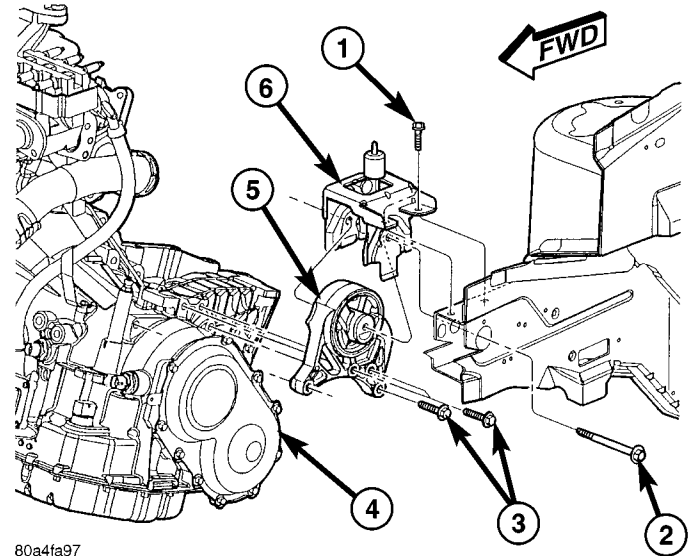
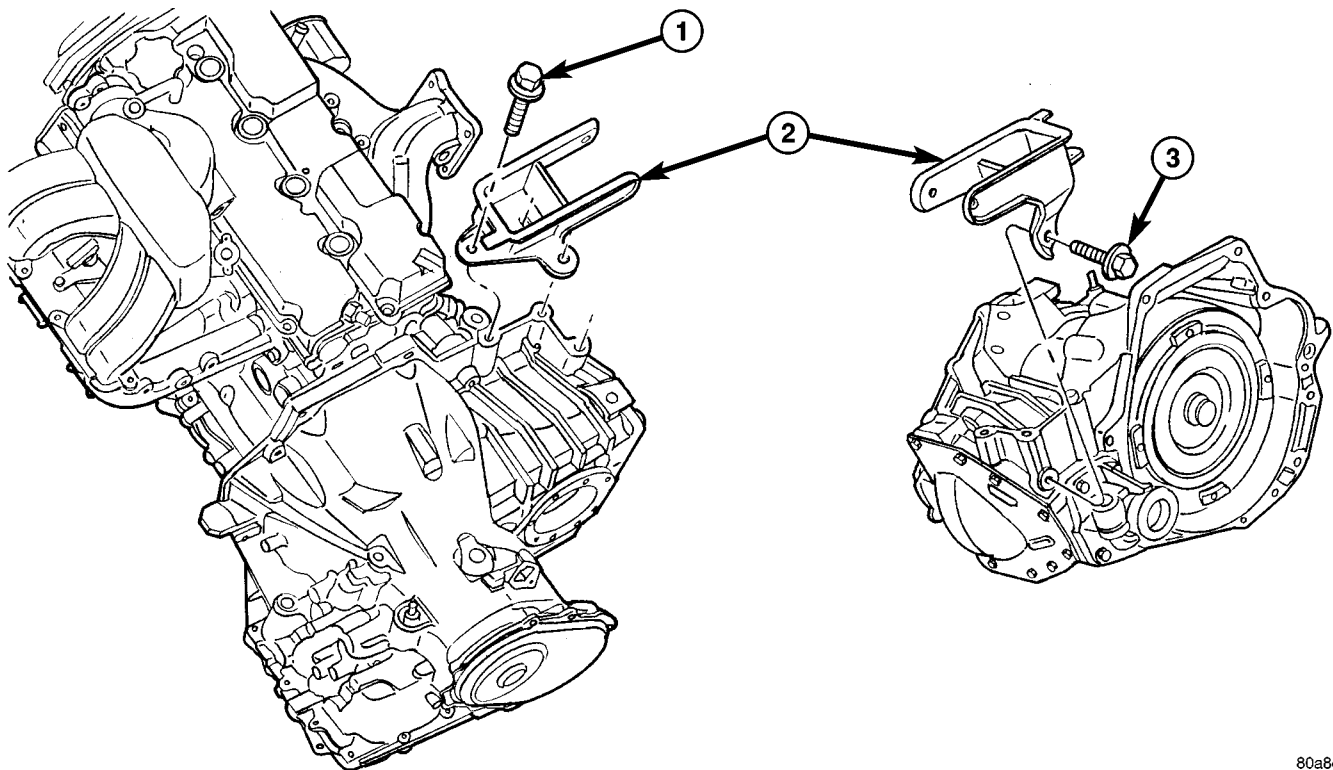

Fig. 14 Left Mount-to-Bracket
Fig. 13 Rear Mount Bracket - Typical
(11) Reposition leak detection pump harness and hoses.
(12) Remove rear mount bracket-to-transaxle case bolts (Fig. 13).
(13) Remove transaxle upper bellhousing-to-block bolts.
(14) Raise vehicle on hoist.
(15) Remove transaxle oil pan and drain fluid into suitable container.
(16) Remove front wheel/tire assemblies.
(17) Remove left and right halfshaft assemblies. (Refer to 3 - DIFFERENTIAL & DRIVELINE/HALF SHAFT - REMOVAL)
(18) AWD models: Remove power transfer unit. (Refer to 21 - TRANSMISSION/TRANSAXLE/POWER TRANSFER UNIT - REMOVAL)
(19) Remove rear mount bracket-to-transaxle case lower (horizontal) bolt (Fig. 13).
(20) Remove front mount/bracket assembly.
(21) Remove starter motor.
(22) Remove lateral bending brace.
(23) Remove inspection cover.
(24) Remove torque converter-to-drive plate bolts.
(25) Support engine/transaxle assembly at engine oil pan with screw jack and wood block.
(26) Partially remove left wheelhouse splash shield to gain access to and remove upper mount thru-bolt (Fig. 14).
(28) Obtain helper and/or transmission jack. Secure transmission jack to transaxle assembly.
(29) Remove upper mount bracket from transaxle (Fig. 14).
(30) Remove remaining transaxle bellhousing-to-engine bolts.
(31) Remove transaxle assembly from vehicle.